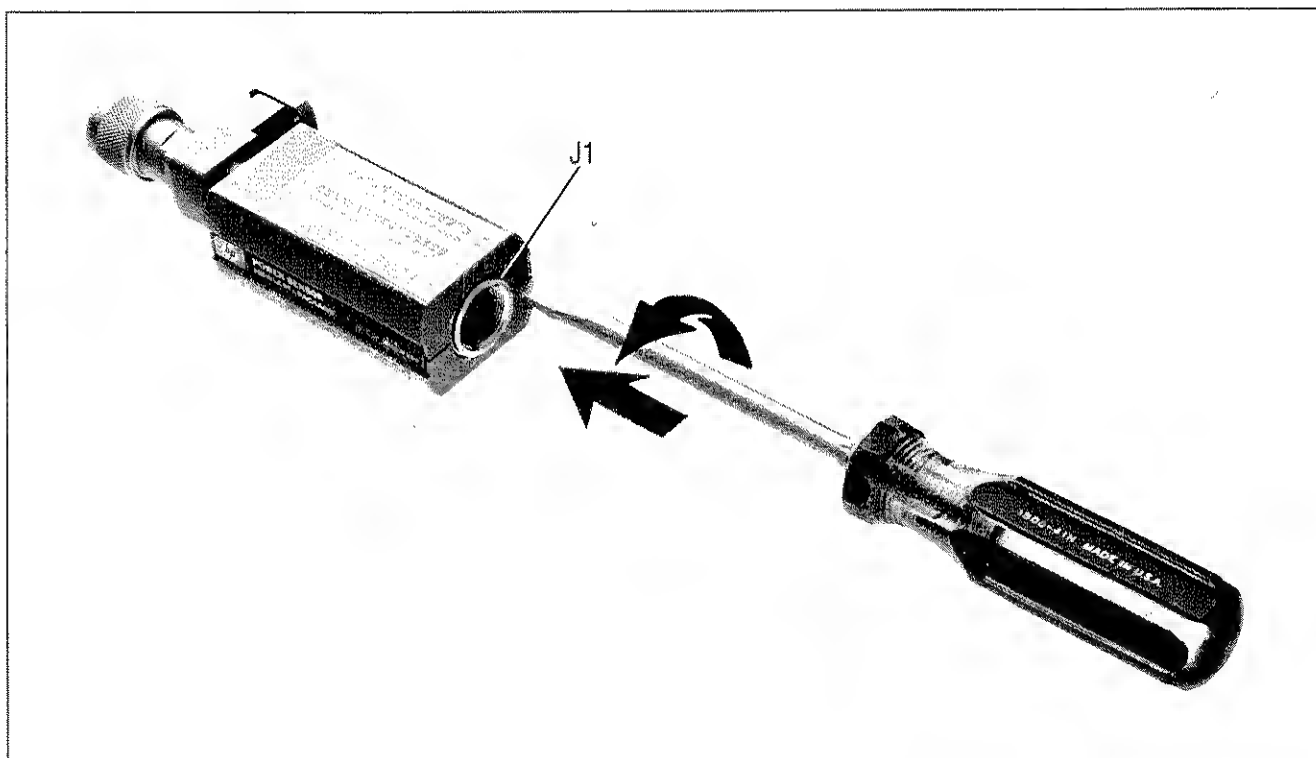

Figure 7. Removing Power Sensor Shell
- c. Position Power Sensor as shown in Figure 7, top view.
- a. Set printed circuit board and connector into place as shown in Figure 7, opened view.
- b. Insert cap screws (8), (9), (11), (12), (14), and (15) but do not tighten.
- c. Center A2 circuit board so there is equal air gap between each side and chassis. Tighten cap screws (8), (9), (14), and (15).